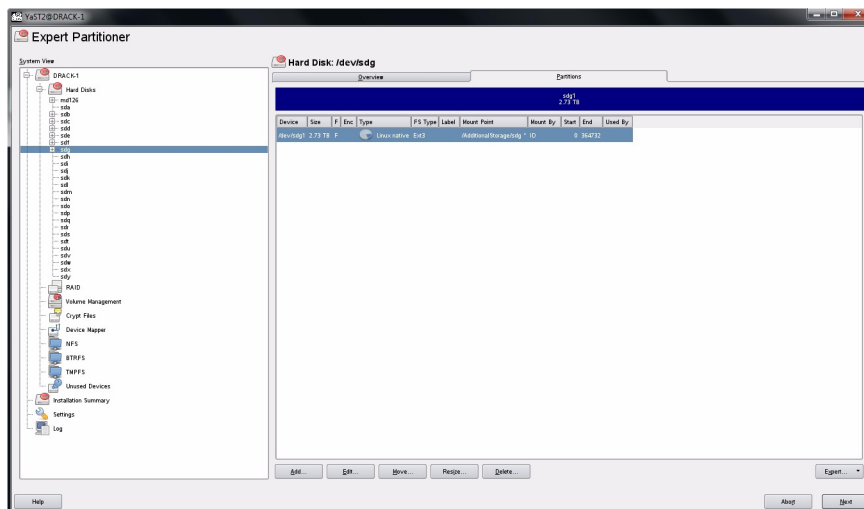

Figure 3-29 YaST2 – Check for Partition
8. Verify the partition shows up (Figure 3-29) and click **Next**.